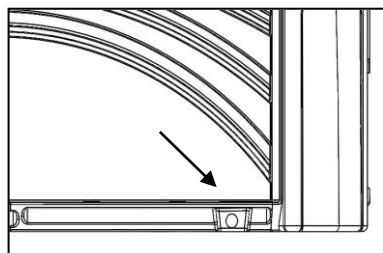
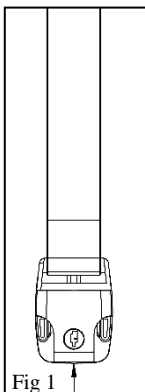

Figure 2
Fig 1
1. Place your spa cover in its proper position on the spa shown in Figure 1. The cover hinge will be parallel to the lower lifter holes shown in Figure 2.
2. Insert the thicker side of the one of BASE TUBES into the bottom of the spa at the location shown in Figure 2.
2. Each strap is supplied with a cabinet latch snapped in place. Leave the cabinet latches at the end of the straps, but remove the bag containing the screws and while lightly pulling downward on a strap, mark the center bottom of the latch (fig 1). A piece of tape may be a good method to do this. Mark each remaining strap in the same way.